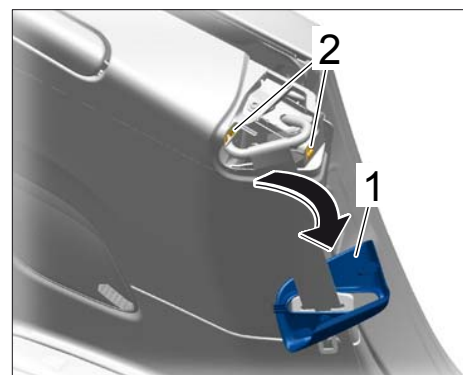

Figure 4
- 4.2 Unclip cover of three-point seat belt ⇒ *Figure 4 -1-* by pulling it forward out of the clips ⇒ *Figure 4 -2-* (⇒ *Figure 4 -arrow-*).